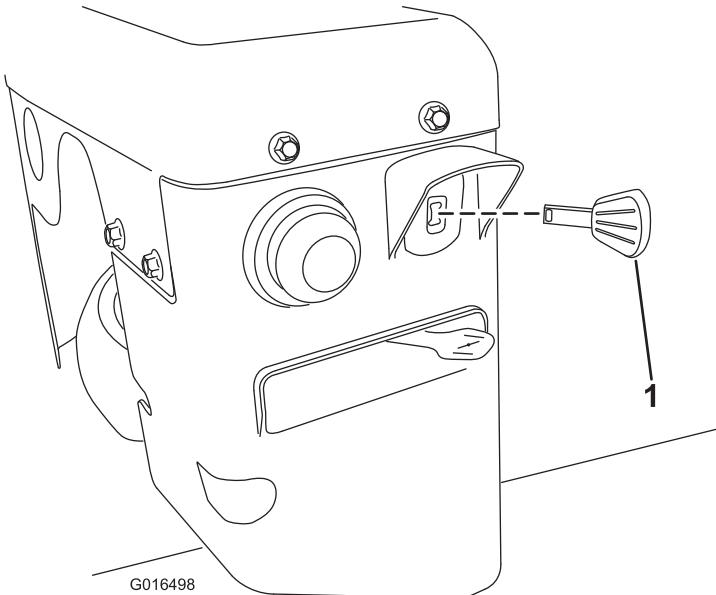

**Figure 21**
2. Turn the fuel shutoff valve 1/4 turn counterclockwise to open it (Figure 21).